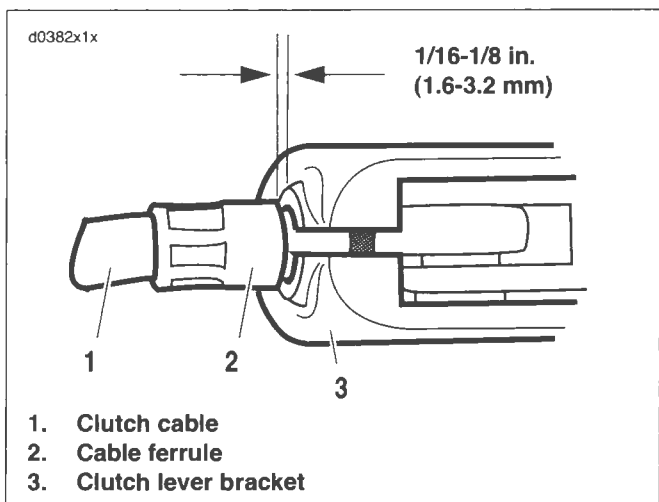

Figure 1-27. Clutch Hand Lever
- b. See Figure 1-27. Pull clutch cable ferrule (2) away from clutch lever bracket (3) to check free play. Turn cable adjuster as necessary to obtain 1/16-1/8 in. (1.6-3.2 mm) free play between end of cable ferrule and clutch lever bracket.